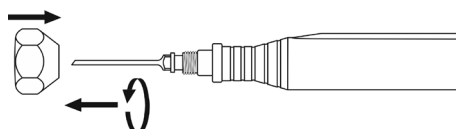

Fig. 3a
- Remove the ultrasonic tip according to fig. 3a or 3b: